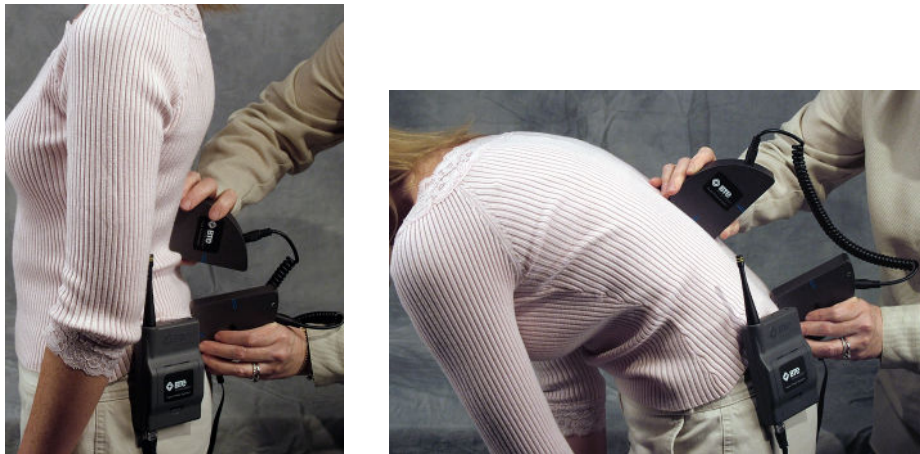

Figure 3-8. Initial & Final Lumbar ROM Flexion
- Step 1. Align the Inclinometer sides in the sagittal plane and place one of the sides on T12 (Figure 3-8).
- Step 2. Place the other side at S1 (Figure 3-8).
- Step 4. Have the client maximally flex the lumbar spine (Figure 3-8).